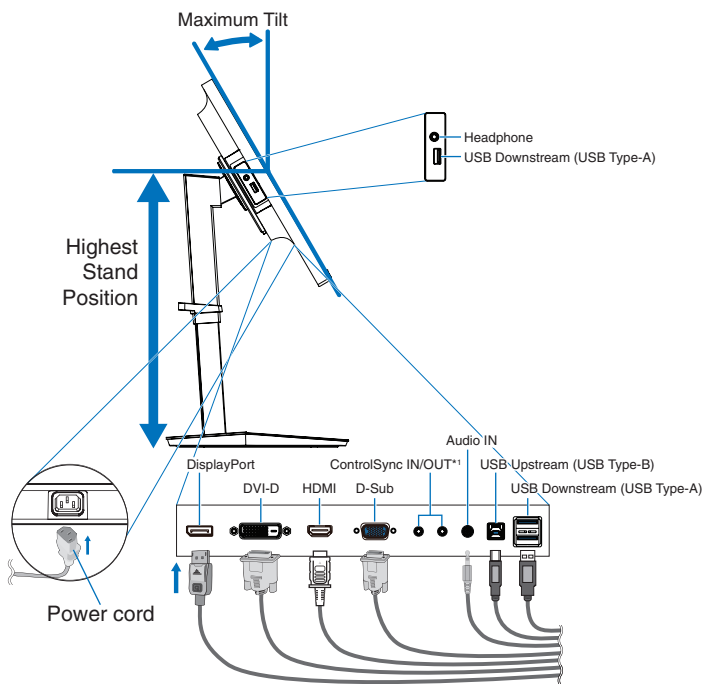
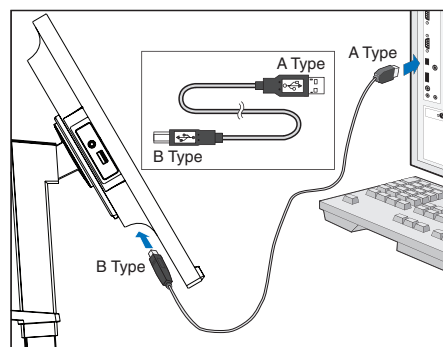

Figure C.1
Figure C.1a
- Connect all cables to the appropriate connectors (**Figure C.1**). When using the USB cable, connect the B-type connector to the USB upstream port on the rear side of the monitor and the A-type connector to the downstream port on the computer (**Figure C.1a**). If using the cord from a USB device, plug it into the downstream port of the monitor.